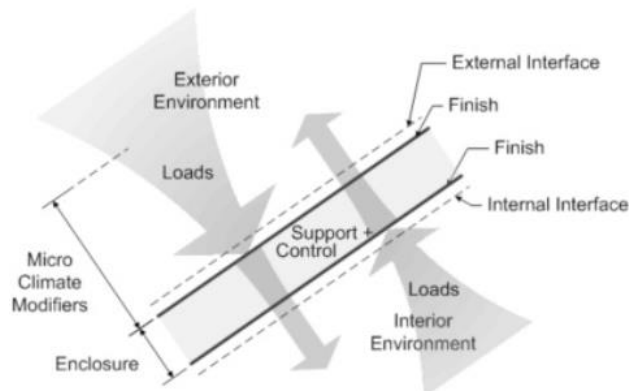

Fig. 1 Building enclosure and its functions (1)
(1) http://buildingscience.com/documents/digests/bsd-018-the-building-enclosure_revised
(2) http://buildingscience.com/documents/digests/bsd-018-the-building-enclosure_revised- Please check fig. 1, 2 and 3
- (1) http://buildingscience.com/documents/digests/bsd-018-the-building-enclosure_revised
- (2) http://buildingscience.com/documents/digests/bsd-018-the-building-enclosure_revised - Please check fig. 1, 2 and 3
- (3) <http://rdh.com/wp-content/uploads/2014/04/Air-Leakage-Control-in-Multi-Unit-Residential-Buildings.pdf>
- (4) <https://www.wbdg.org/resources/moisturedynamics.php>
- (5) <https://www.wbdg.org/resources/moisturemanagement.php>